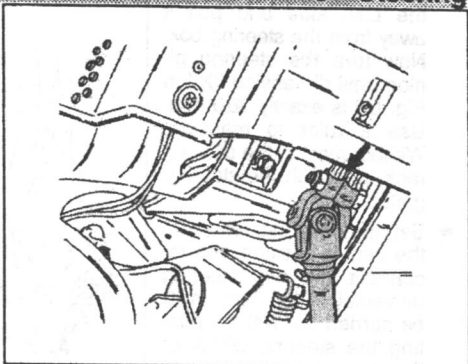

Fig. 6.3. — The arrow shows the clamp bolt of the universal joint between the upper and lower steering shaft.
- From the inside of the engine compartment remove the nut from the end of the clamp bolt (Fig. 6.3). The bolt secures the upper part of the steering column to the steering column universal joint. To separate the connection grip the steering wheel in pull it sharply upwards.
The steering shaft can be replaced without removing the complete steering. First disconnect the steering shaft universal joint (see Fig. 6.3) by removing the clamp bolt and pulling the steering wheel upwards until the joint has disengaged.